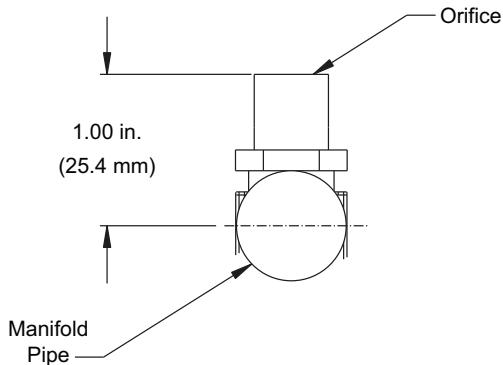

Fig. 52 — Orifice Projection
Refer to Fig. 52 for maximum projection dimension for orifice face to manifold tube.
5. If factory orifice has been removed, check that each orifice is tight at its threads into the manifold pipe and that orifice projection does not exceed maximum value. (See Fig. 52.)
Ensure each replacement orifice is tight as its threads into the manifold pipe and the orifice projection does not exceed maximum value. See Fig. 52.